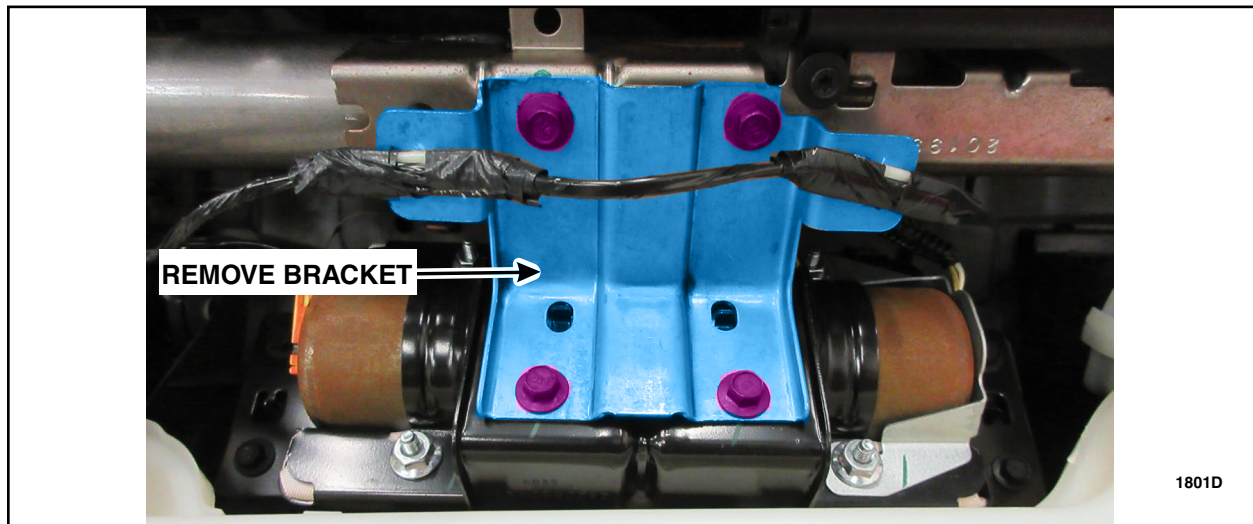

FIGURE 4
- Remove the instrument panel crossmember-to-airbag module bracket. See Figure 4.